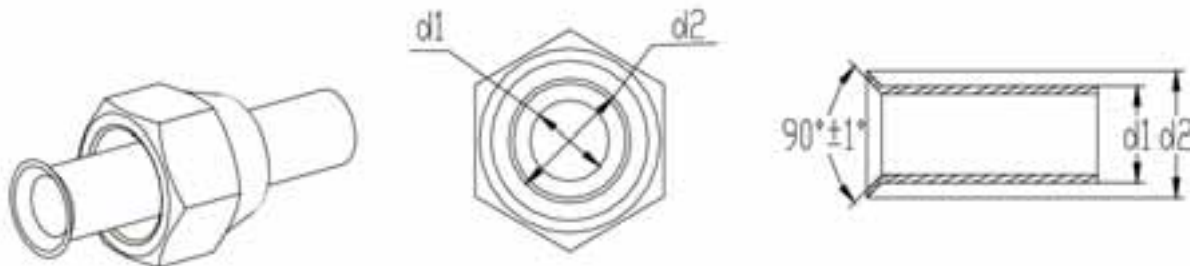

Fig. 10
- (1) Use pipe cutter to cut pipe to avoid misshaping.
- (2) Keep the pipe downward in case cutting scraps get into the pipe. Clear away the burrs after cutting.
- (3) Remove the flared nut from the valve on both the indoor and outdoor units. Then use flaring tool to fix the flared nut into the pipe (as shown in Fig.10).
- (4) Check if the flared part is flaring evenly and if there is no crack.